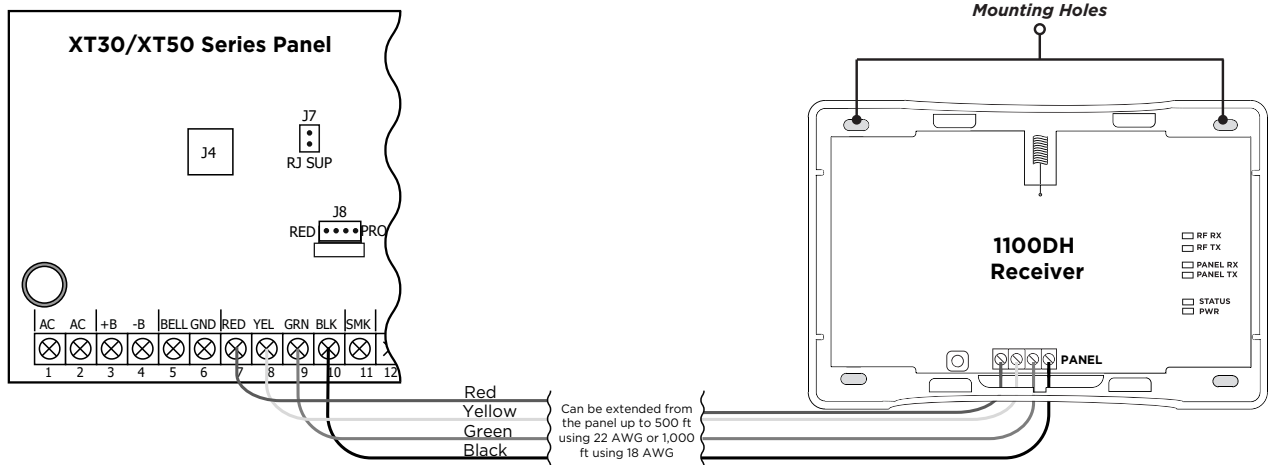

Figure 2: Wiring the 1100DH to the Panel
2. Connect the other end of the wires to the terminals 7, 8, 9, and 10 on the panel. See Figure 2
3. Use the included #6 screws to secure the 1100DH to the surface. See Figure 2 for mounting hole locations.
The six labeled LEDs on the 1100DH PCB display wireless receiver operation and activity. See Figure 2 for LED locations and Table 2 for LED indications.